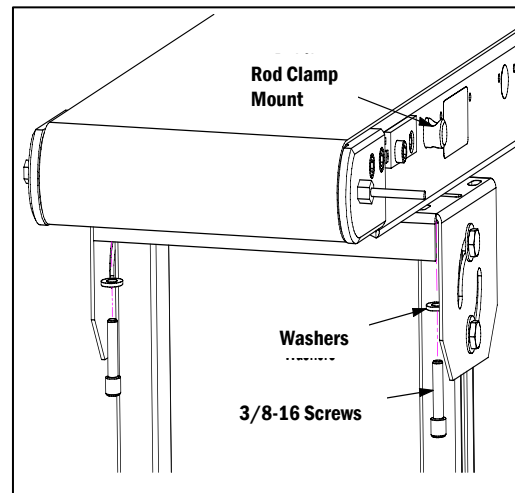

Figure 1
- b. Thread the screw from below the Steel Stand Top Plate or other mounting surface through the washer and into the tapped hole in the rod (Figure 1).